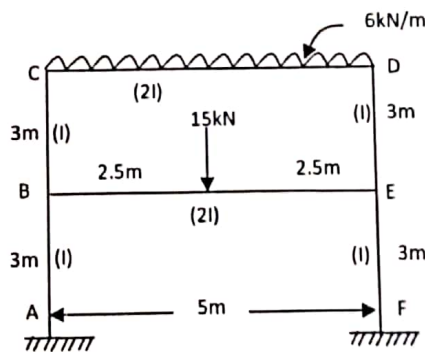

Fig. Q5
5. Analyze the frame shown in Fig. Q5 using Kani's method taking advantage of symmetry. Draw BMD